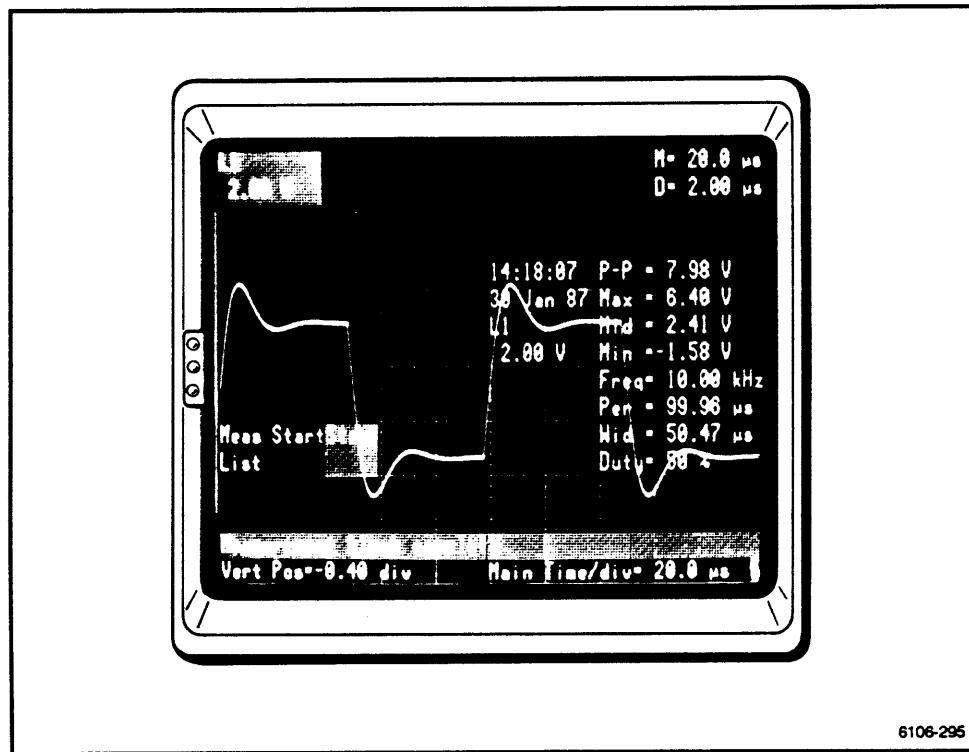

Figure 2-96. The MEASURE menu display after touching Start.
4. To begin the measuring process, touch **Start**. The results will appear on the right side of the display along with the time and date of the measurement. To get new results, touch start again. (See Fig 2-96.)